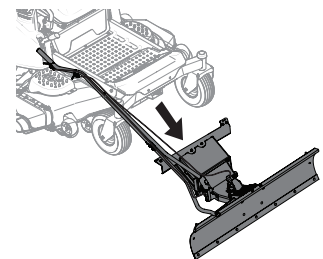

Figure 17
- Slide plow assembly away from tractor. See Figure 17.